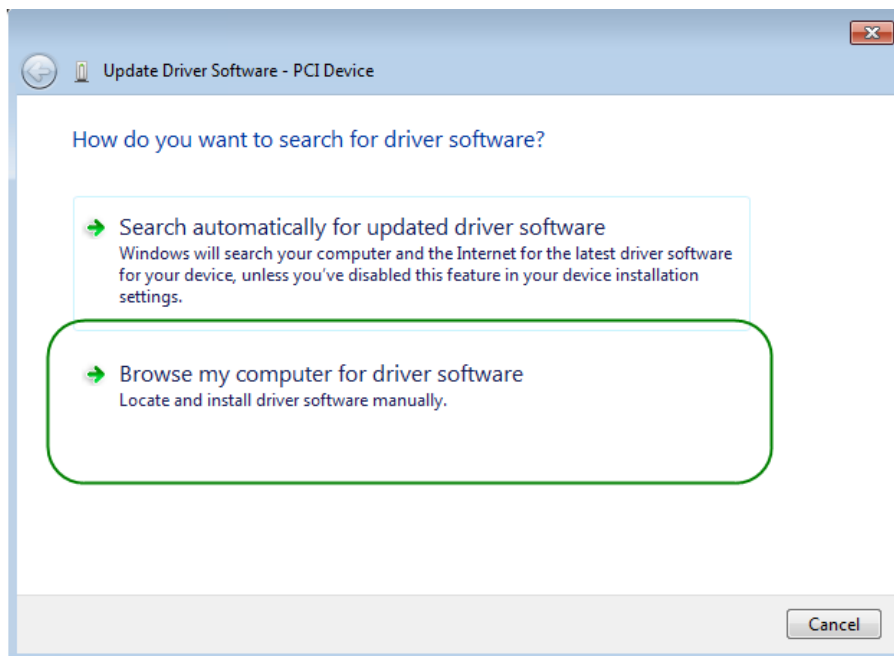

Figure 5-4 Dialog of Browse my computer for the driver software
6. In the **How do you want to search for the driver software** dialog, click **Browse my computer for driver software** item, as shown in **Figure 5-4**.